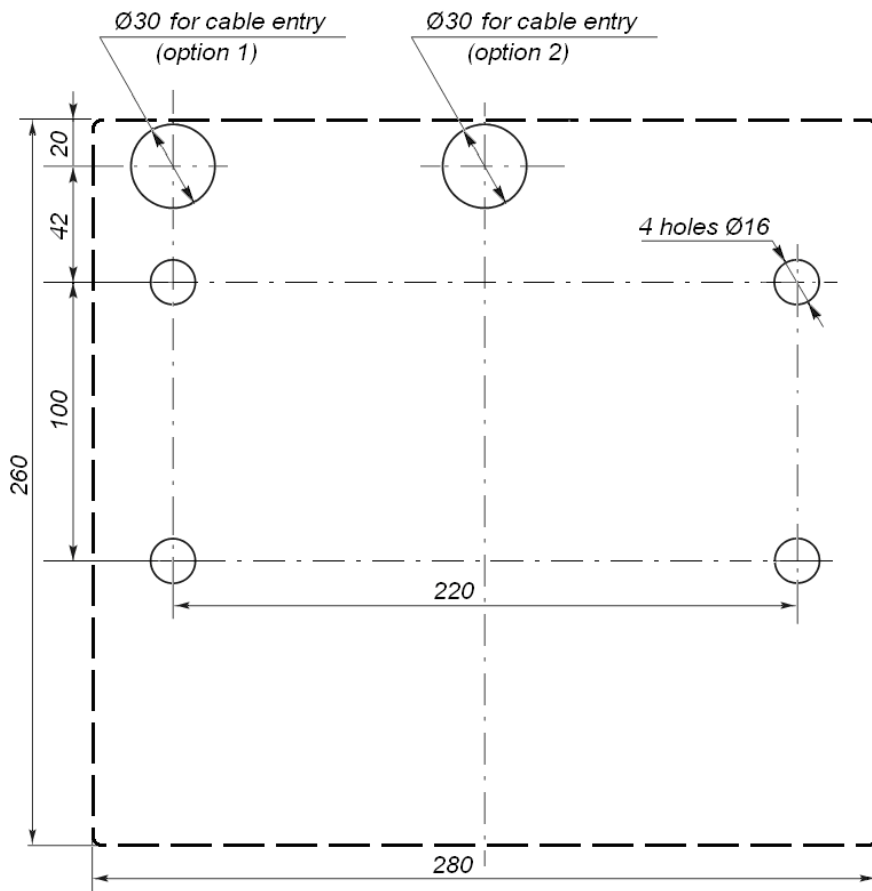

Figure 11. Floor anchor position and cable entries for housing installation (turnstile housing is dotted)
- to mark the mounting holes according to Fig. 11;
2. Make the holes for anchor bolt (13) sleeves for the turnstile housing installation (Fig. 11). If you lay out cables under the floor surface, make an electric raceway to the cables laying zone of the turnstile housing (option 1 or 2 in Fig. 11)